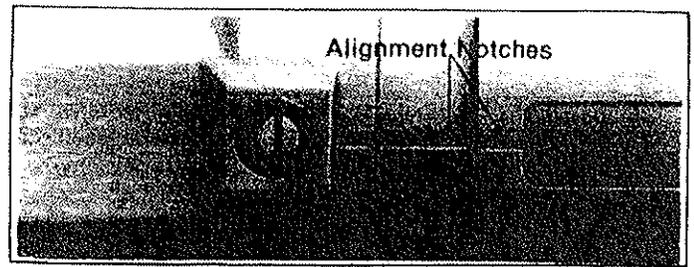

Figure 7.
- Rethread handle body onto connector housing until body seats firmly against O-ring seal and alignment notches on handle body and connector housing are aligned. Tighten handle body set screw securely to 10 in. lbs. torque (see Figure 7).